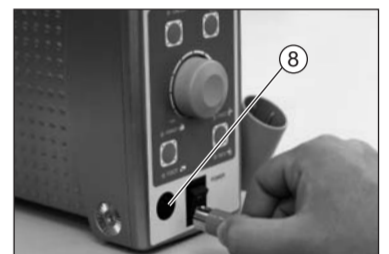

Fig.3
Insert the motor cord plug in Output Connector⑧.(Fig.3)